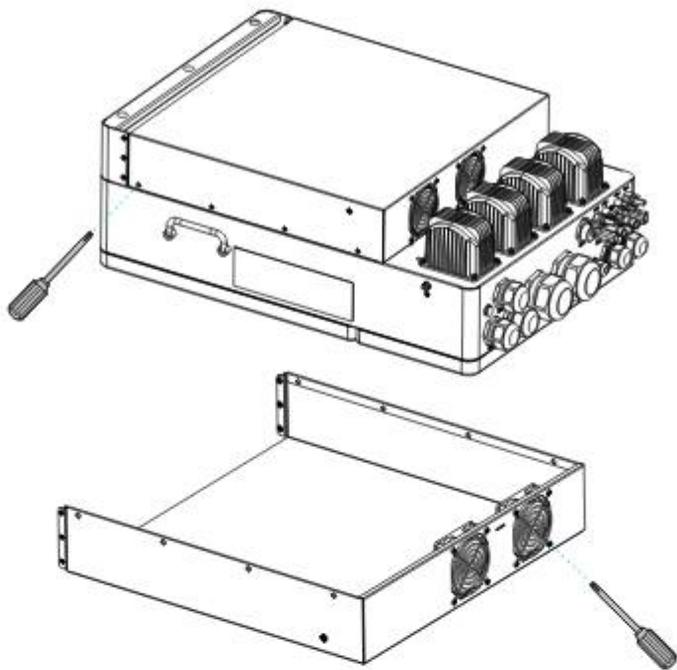

Fig 9.1 Location of fan maintenance
- 2> Remove the fan fixing plate using a cross-head screwdriver, as shown in Fig 9.1.